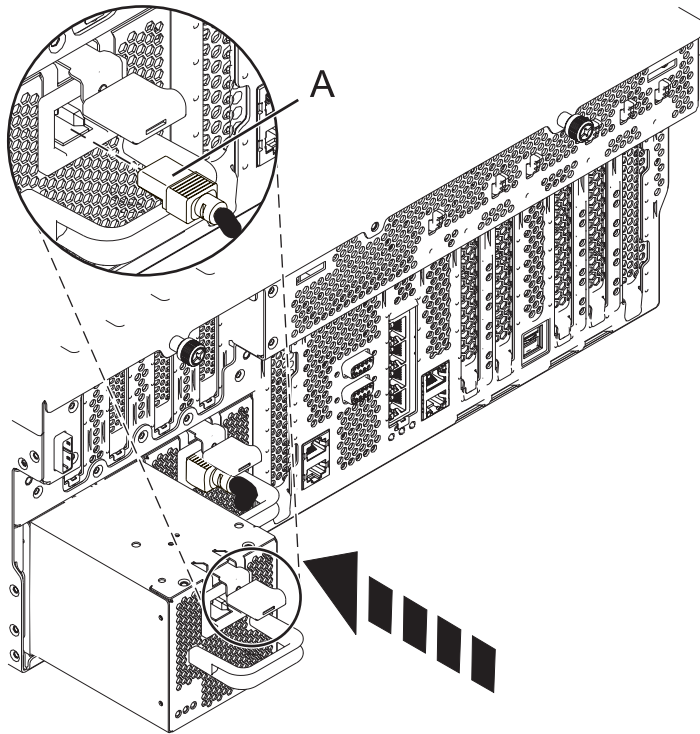

Figure 5. Replacing a power supply
2. Align the power supply with the bay and slide the new power supply into the system until the latch locks in place, as shown in Figure 5.
3. Reconnect the power cable (A) to the front of the power supply, as shown in Figure 5.